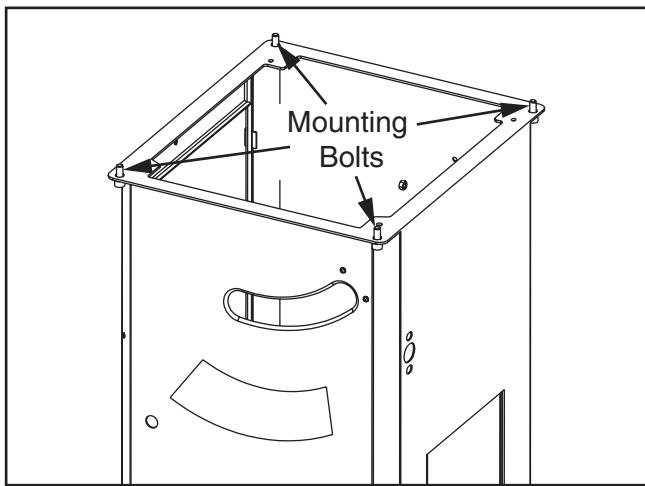

Figure 118. Location of table mounting bolts (table omitted for clarity).
6. Loosen (4) table mounting bolts securing table top to base (see **Figure 118**), and lightly tap table in direction needed to square table to blade.